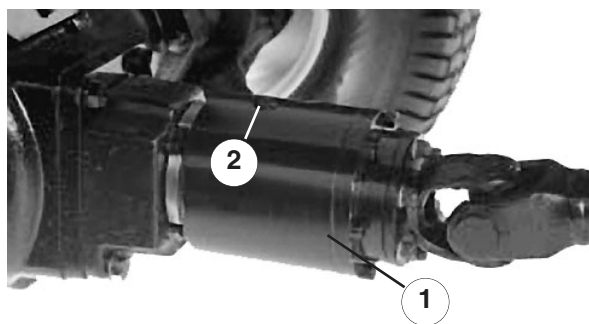

Figure 39
3. Rotate the clutch so the check plug is positioned downward (Fig 39).